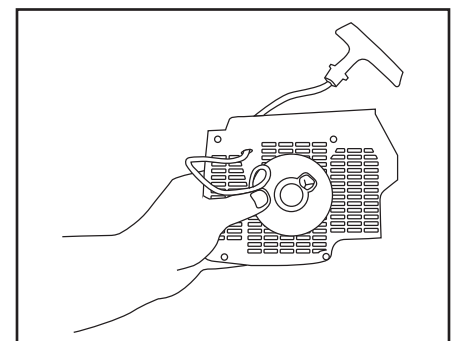

Figure 3
- Pull the cord out approximately 8" and lift the cord up into the notch in the pulley (Figure 3). Relax the recoil spring by placing thumb on pulley and gently allow the pulley to unwind entirely. Undo the screw in the center of the pulley and remove the pulley.